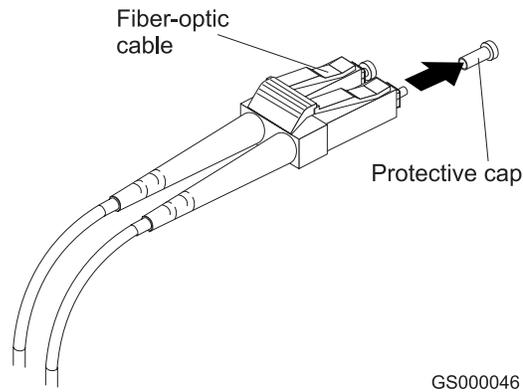

Figure 7. Removing the fiber-optic cable protective caps
3. Remove the two protective caps from one end of the LC-LC cable as shown in Figure 7. Save the protective caps for future use.
5. Remove the two protective caps from the other end of the LC-LC cable, as shown in Figure 7 on page 7. Save the protective caps for future use.